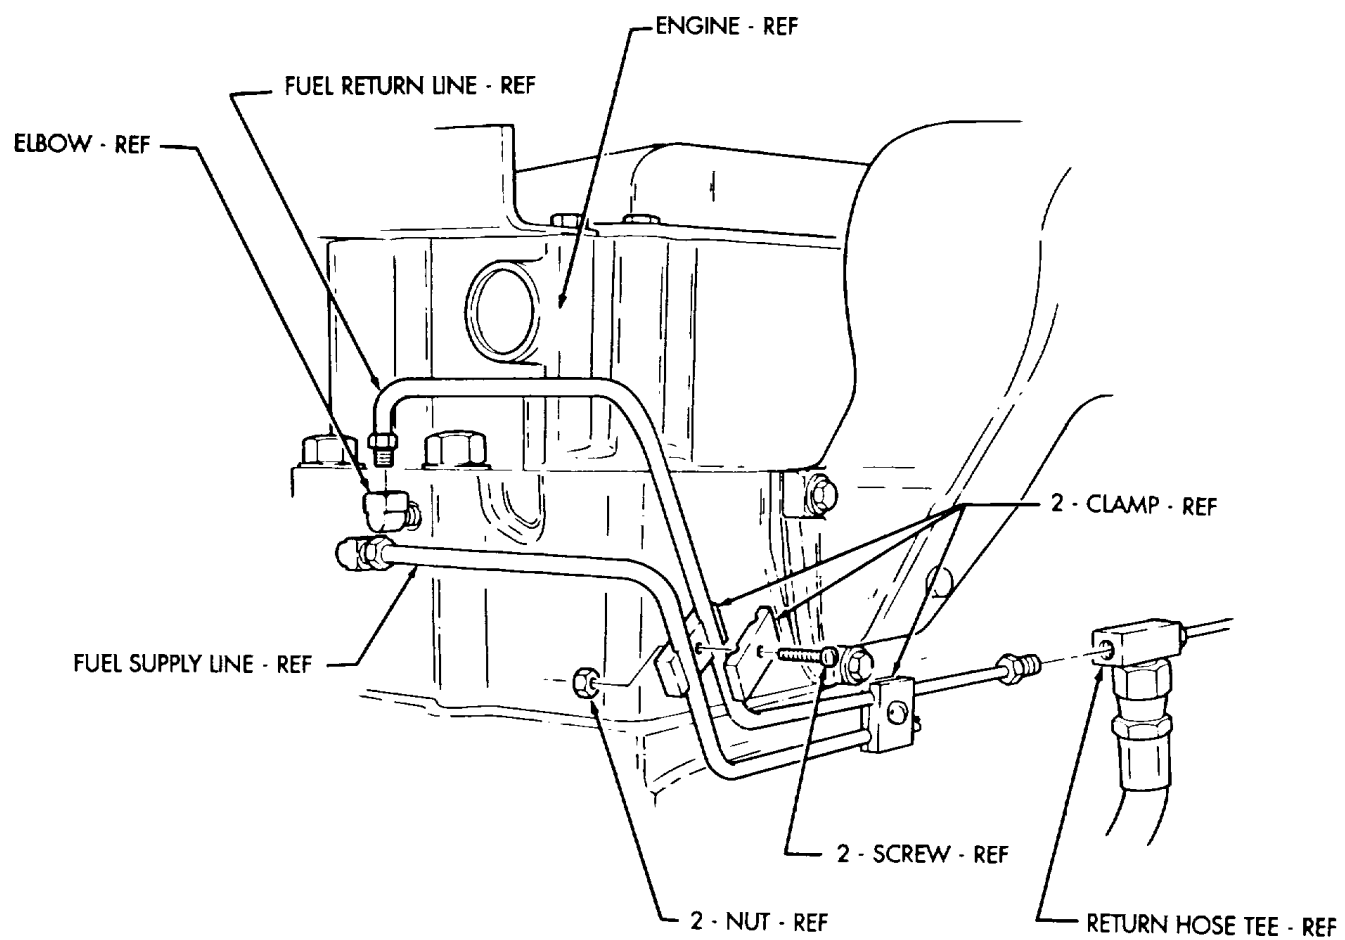

FIGURE 4
- (7) Remove two nuts, screws, and clamps from fuel return line and fuel supply line as shown in figure 4. Retain nuts, screws, and clamps for installation.
- (8) Disconnect fuel return line from return hose tee and elbow on front of engine as shown in figure 4.